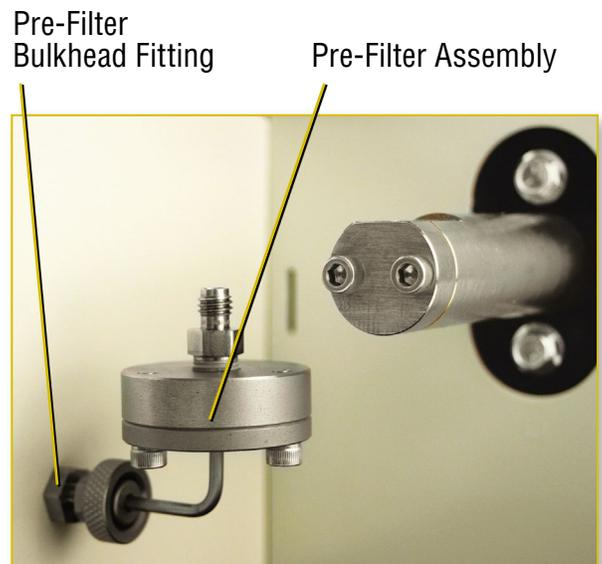

Figure 24 Attaching the Pre-Filter Assembly
21. Connect the pre-filter assembly to the pre-filter bulkhead fitting and finger tighten [Figure 24].